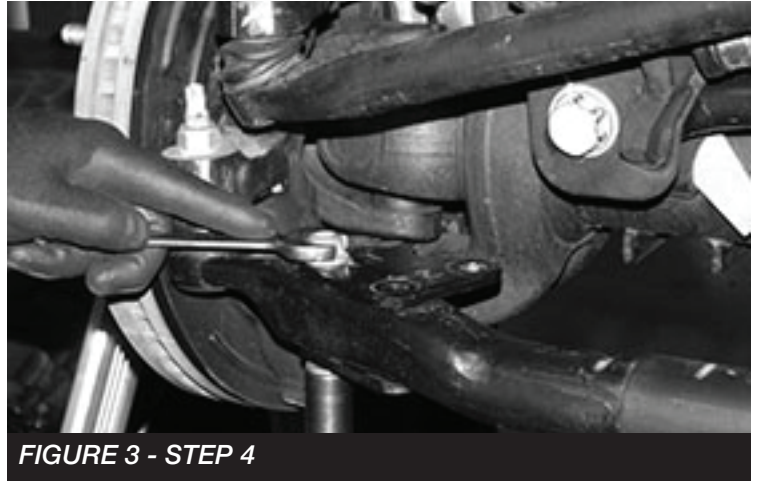

FIGURE 3 - STEP 4
4. Remove the factory stabilizer bracket on the tie rod and discard. **SEE FIGURE 3**